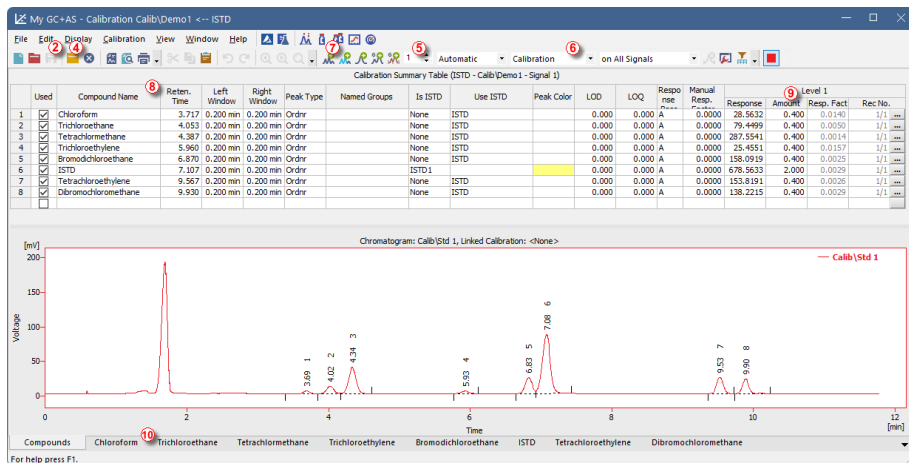

Fig. 9: Calibration window - loaded standard
- Click in any row in the *Result table* ③ . The peak (or peaks) corresponding to the row you just clicked into will change color according to the color of the signal. This change will last until the focus in the *Result table* is canceled.
- To add permanent color to the peak, click the *View* button ④ in the right side of the *Results* tab. This will get you to the linked calibration file. There, in the *Calibration Summary Table*, find the *Peak Color* column (see **Fig. 9** on pg. 21.). In the row corresponding to the peak to be colored select the appropriate color and click *OK*. Return to the *Chromatogram* window by using the  icon in the toolbar. The selected peak is now colored according to the color selected in the *Calibration* window (green in our case).
- You can change the integration of peaks by using the interactive icons in the toolbars on the left side of the *Chromatogram* window ⑤ , by using commands from *Chromatogram* menu ⑥ or directly in the *Integration* tab ⑦ . Any changes made either way will change the **Integration table** and can be copied to the template method. To do so, click on *Method - Save as Template...* menu command.
- It's recommended to check that the **Current Level** field **5** is set to 1, however, this is only for your orientation, because when **Calibration** option **6** is selected response is added to the first empty level regardless of which one is displayed. It is important to be on correct level when using **Recalibration** option. Use the **Add All** icon (blue) **7** to move all identified peaks to the calibration table. The Calibration table appears in the **Calibration** window, ready to be completed as seen on **Fig. 9** on pg. **21**.
- As it can be clearly seen in the calibration, particular peaks are now identified according to their retention times only. Click and edit the fields in the **Compound Name** column **8** to those seen on **Fig. 9** on pg. **21**. You may also set the peak color for some peak, for example the ISTD peak, in the **Peak Color** column.
- icon (blue) ⑦ . Fill in the *Amount* column with *1.0* values (except for the ISTD peak, in which the *2* value should be used again).
- Set the third calibration level accordingly using the STD 3.PRM file and *Amount* of *3.0* and the fourth level (file STD 4.PRM, *Amount* *5.0*) except for the ISTD peak (*Amount* *2* every time). On the tabs of the individual compounds ⑩ , the linear four-point calibration can be seen. Save the calibration file now using the *Save Calibration* ③ icon ② under the name CALIBDEMO.CAL into the default directory.